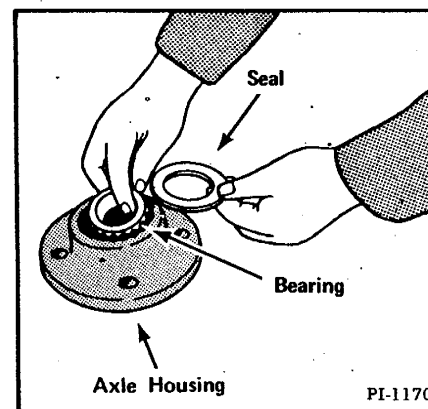

Fig. 4-35 Installing Bearing and Seal
(3) Install a new bearing and seal into the axle housing. The outer seal should be even with the outer edge of the housing. Both seal lips must be toward the inner side (Fig. 4-35).